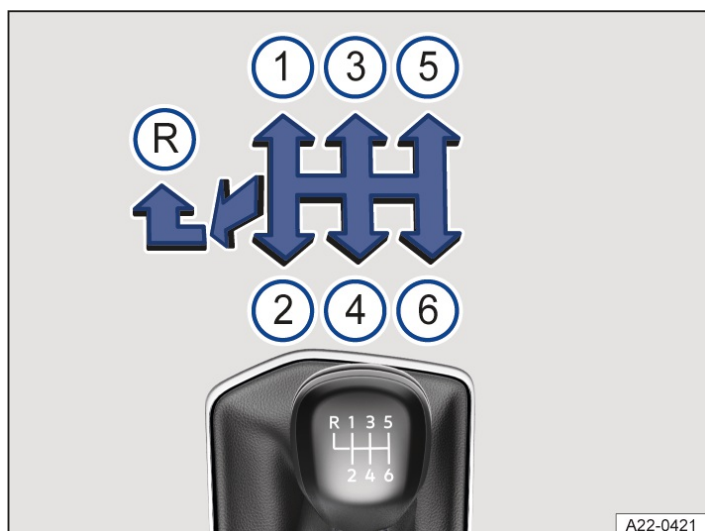

Fig. 1 Gear shift pattern of a 6-speed manual gearbox.
2. Move the gear lever to the required position → Fig. 1 1.
3. Push the gear lever fully to the left and then forwards into the reverse gear position → Fig. 1 R.